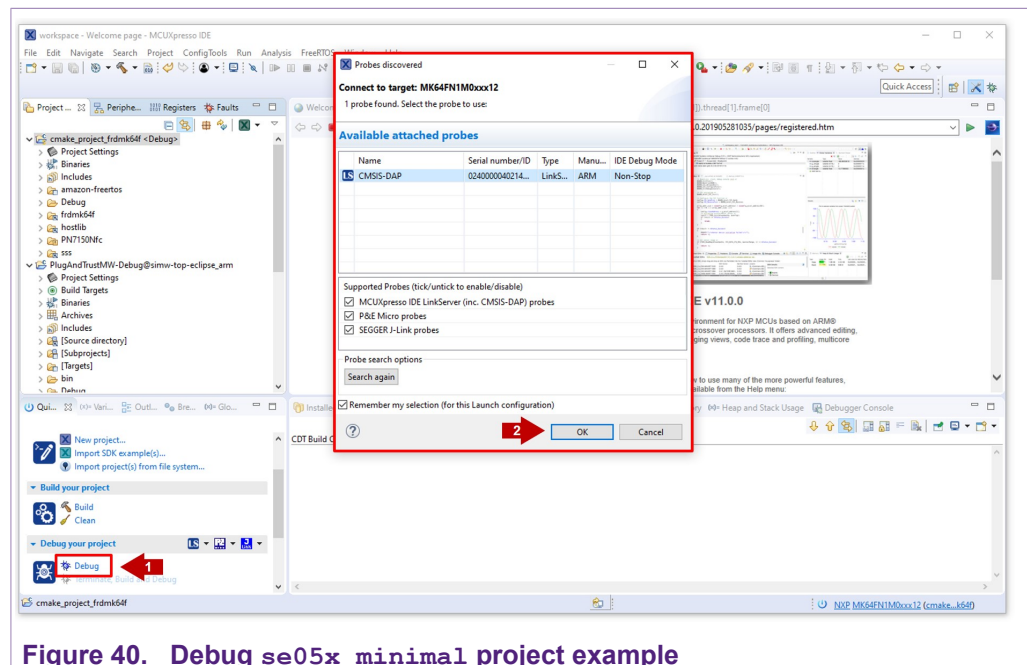

Figure 40. Debug se05x\_minimal project example
- Go to the MCUXpresso Quickstart Panel and click **Debug** button as shown in Figure 40. If there is more than one probe attached, you have to select CMSIS-DAP debug probe from the list. Wait a few seconds until the project executes: